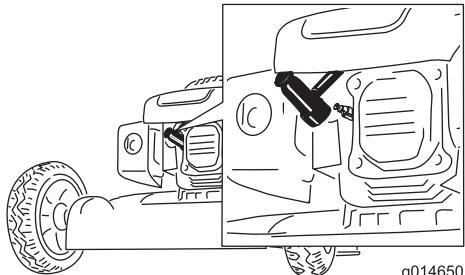

Figure 19
- Disconnect the spark plug wire from the spark plug (Figure 19) before performing any maintenance procedure.